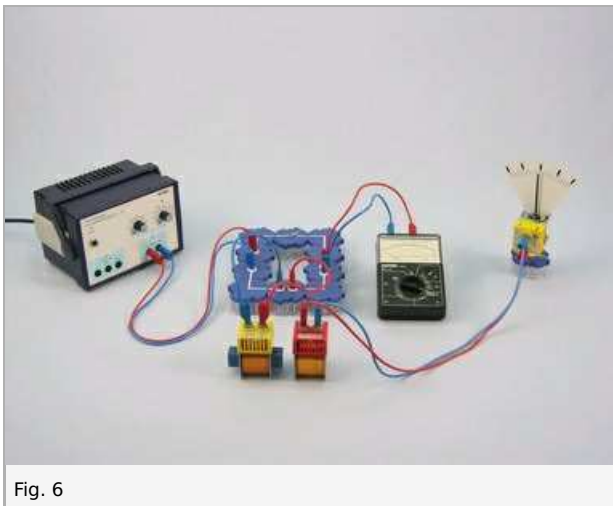

Fig. 6
- Push the yoke (I-core) into the field coil (see Fig. 6) and make the same movements of the coils relative to each other as previously; note what you observe under Result - Observations 2.
- Position the coils next to each other as shown in Fig. 6, and open and close the switch; note what you observe under Result - Observations 3.